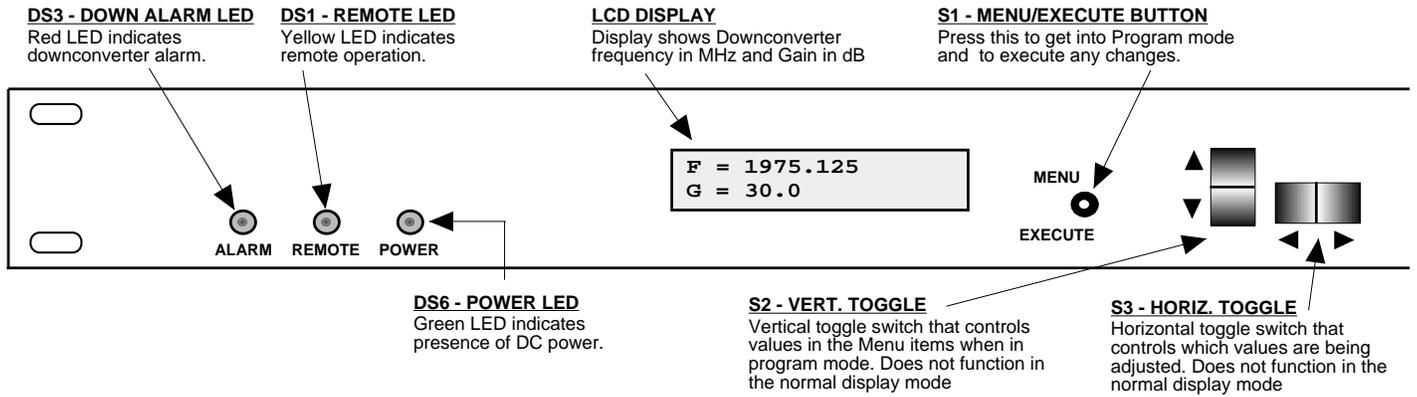

FIGURE 2.3 2016-02-720-400 Front Panel Controls and Indicators
6. Be sure DS6 (green, DC Power) is on and DS3 (red, Alarm) is off (Figure 2.3).
Alarm indications appear on the LEDs (see figure 2.3).